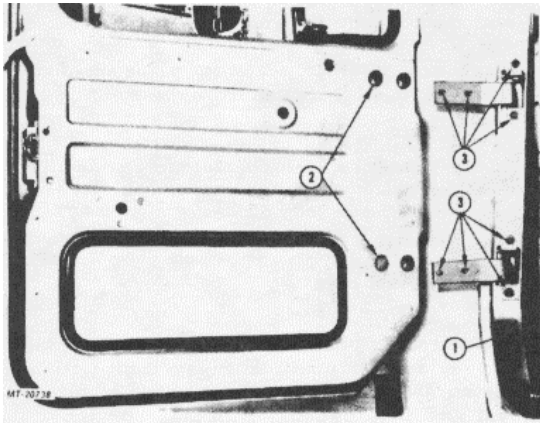

Fig. 27. Location for Door Adjustments at Hinge Pillar
1. ADJUSTMENT AT HINGE PILLAR (FIG. 27)